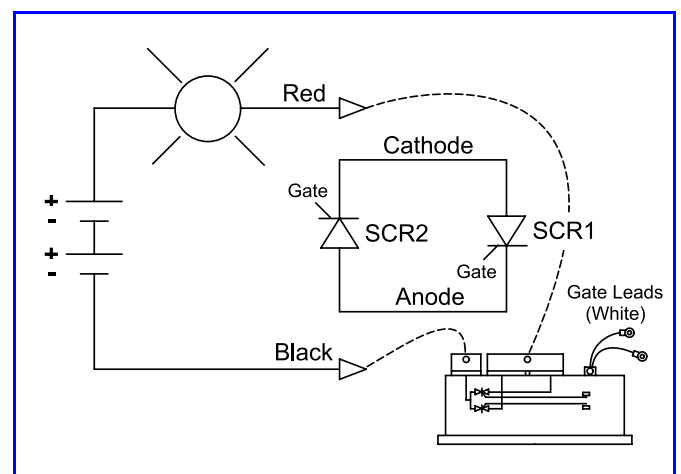

Figure 37 Testing SCR2
6. Reverse the leads as noted below in order to test SCR2. See **Figure 37**.